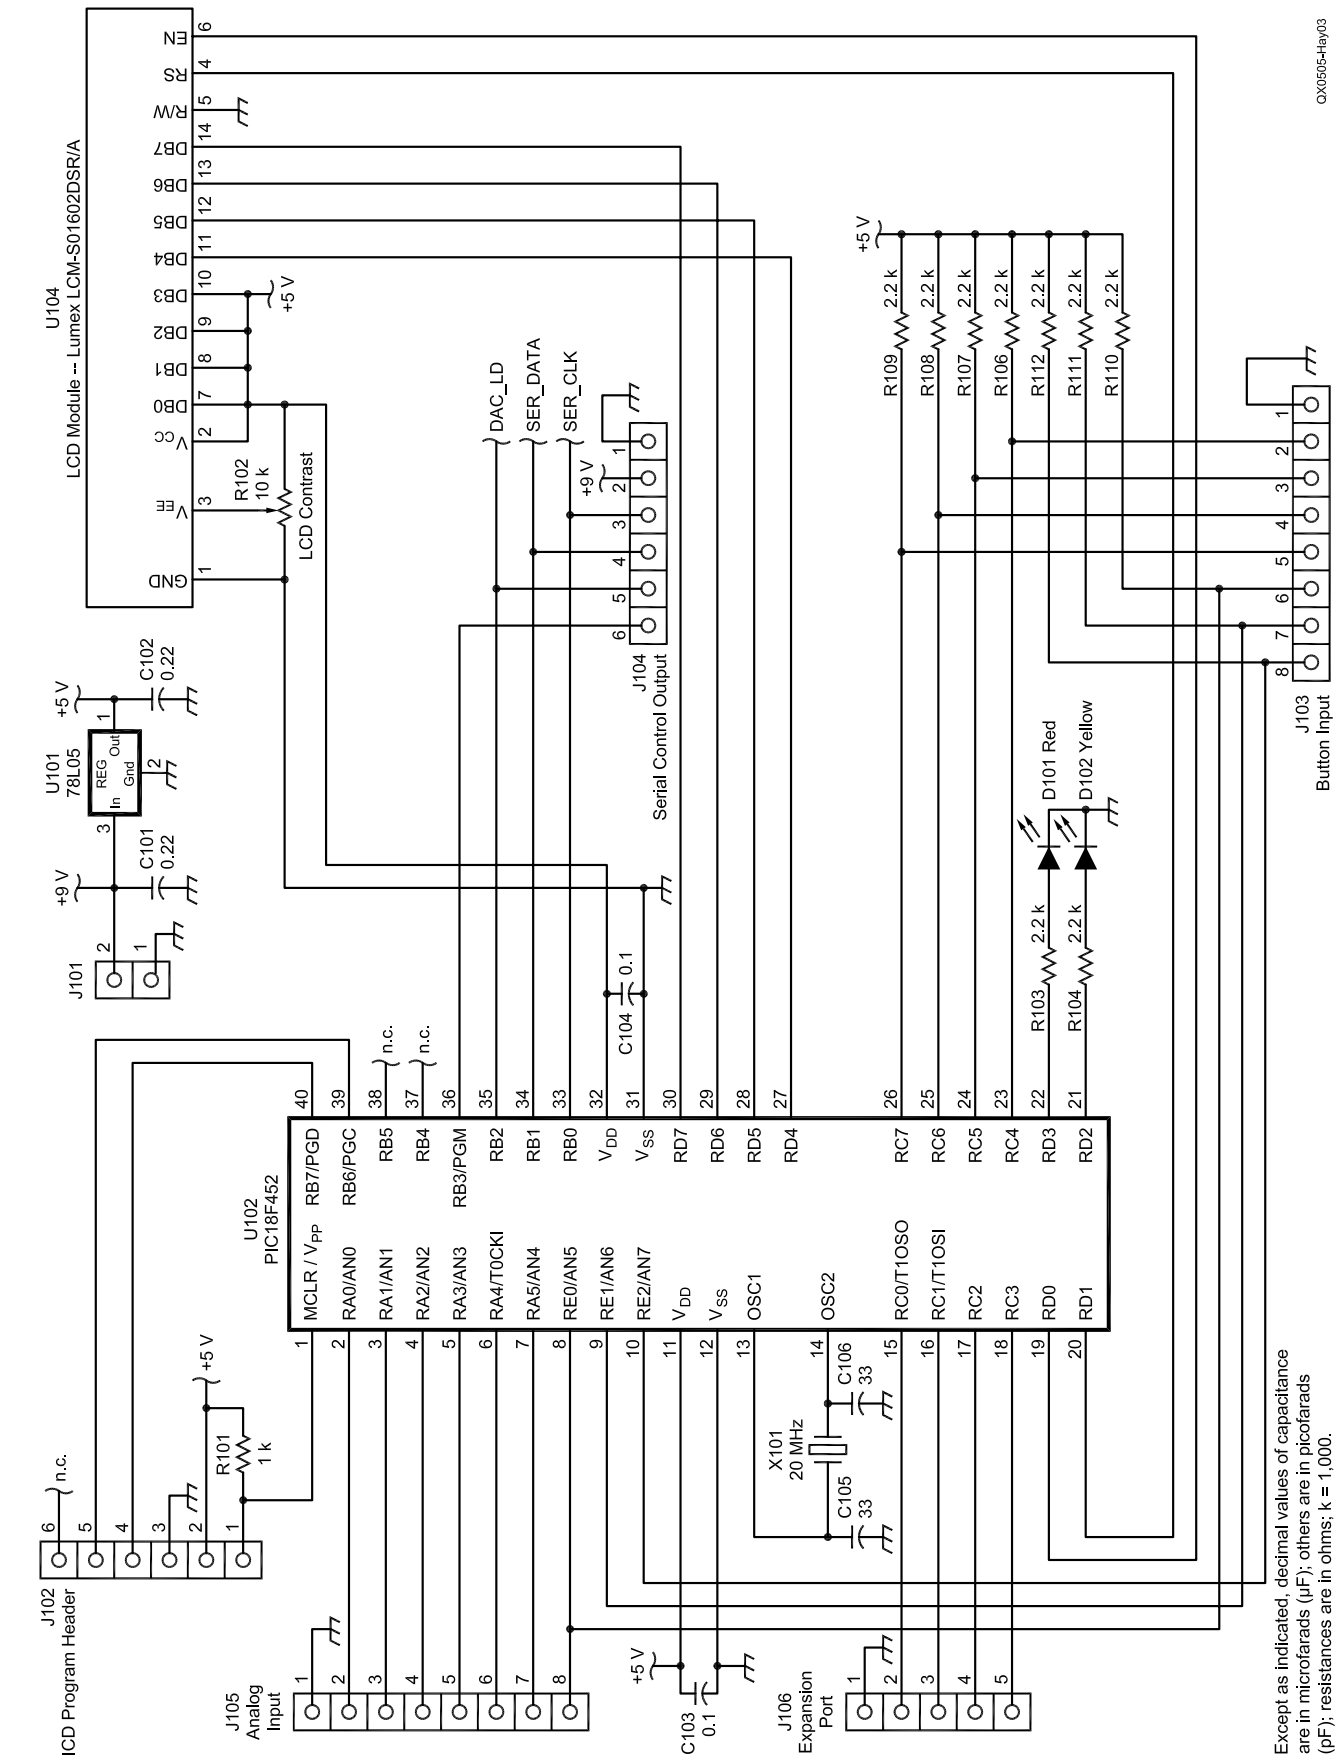

Fig 3—PIC and display module—schematic diagram.
Table 1—Parts list for the PIC and display module shown in Figure 3. Digi-Key part numbers (DK) are shown.